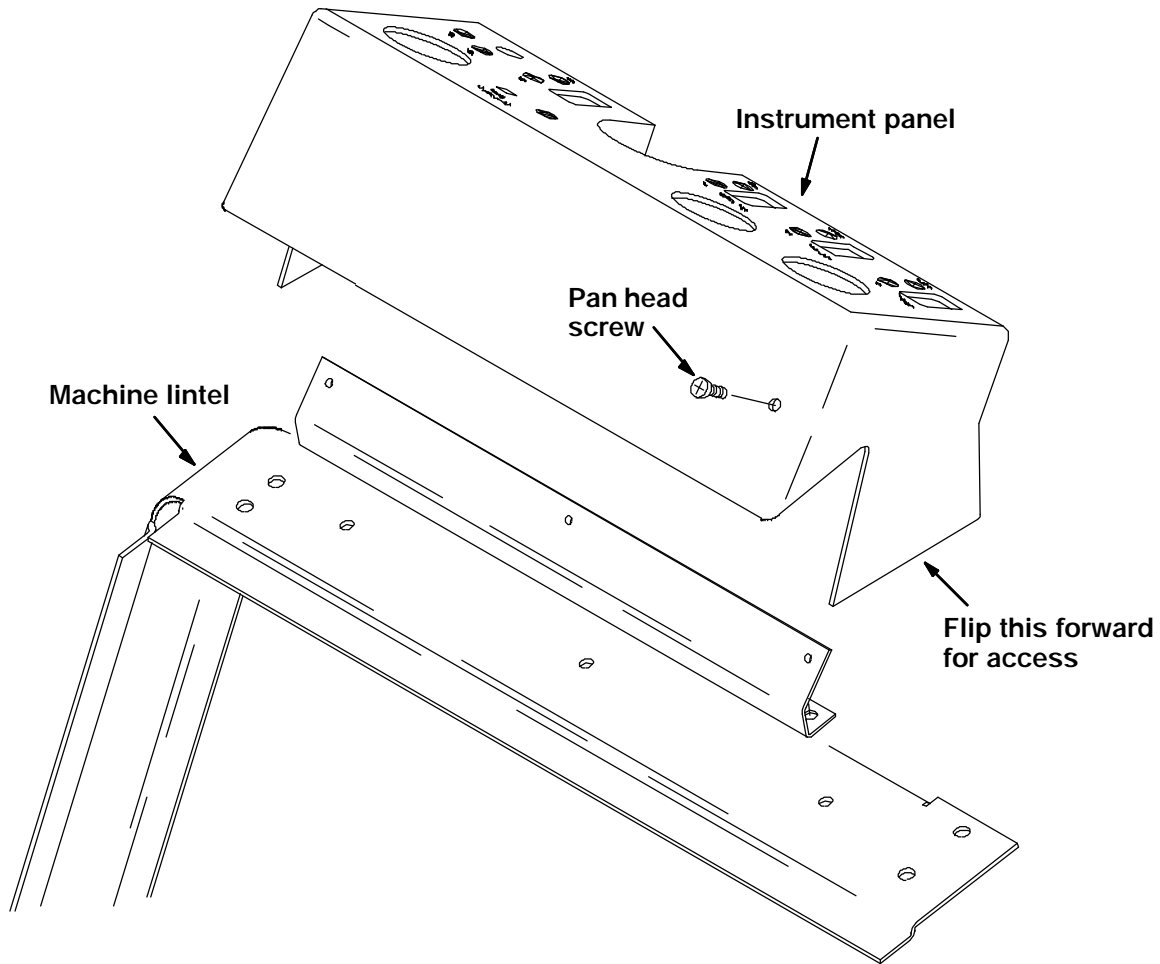

FIG. 1 - Instrument Panel
(Refer to FIG. 1 and 3)
6. Remove the four pan screws holding the plastic instrument panel to the machine lintel. Flip the panel forward and out of the way of the steering column. (Refer to FIG. 1)
(Refer to FIG. 1, 2, 3, 4, and 5)
16. Position the instrument panel back on the machine lintel. Reinstall the four pan head screws. (Refer to FIG. 1)